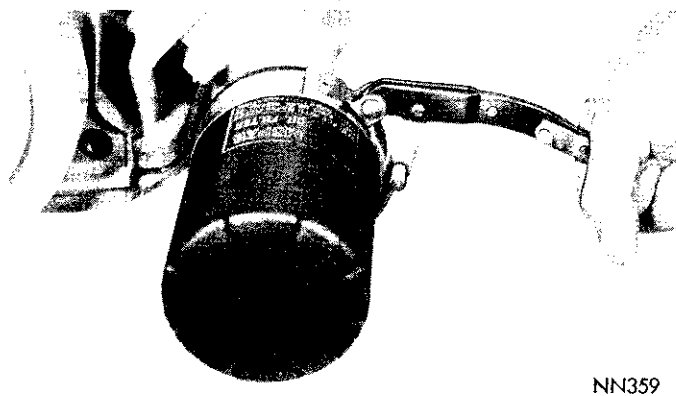

Fig. 58—Removing Oil Filter
- (1) Using Tool C-4065 unscrew the filter from the base on bottom side of engine and discard (Fig. 58).
- (2) Wipe base clean.